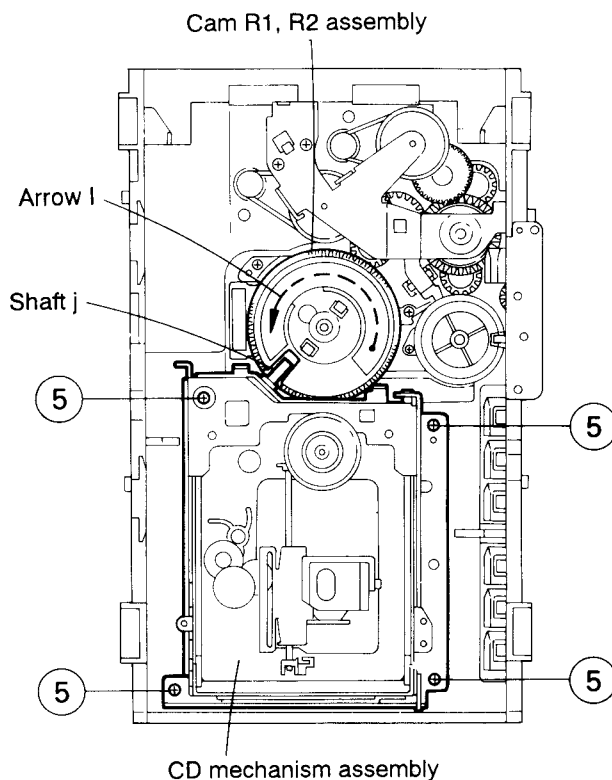

Fig. 2-16
■ Removing the CD mechanism assembly (See Fig. 2-16)
1. While turning the cams R1 and R2 assembly in the arrow direction (I), align the shaft (J) of the CD mechanism assembly to the position shown in Fig. 2-16.
2. Remove the four screws (5) retaining the CD mechanism assembly (See Fig. 2-16).